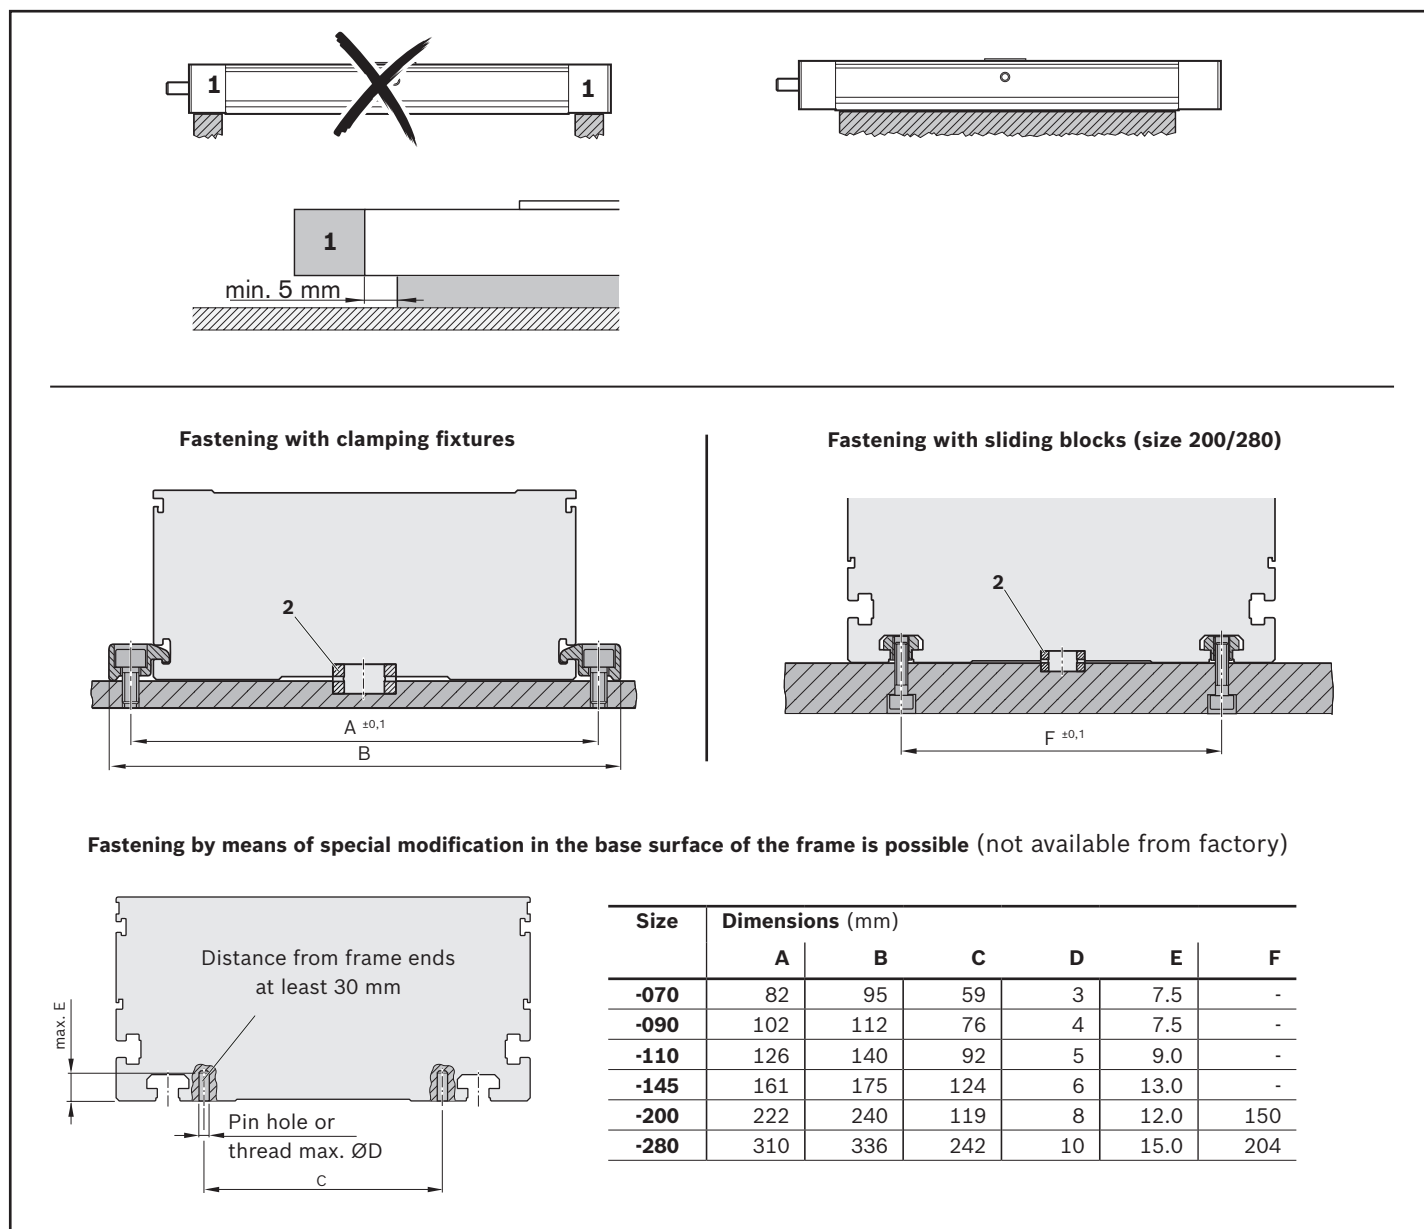

Fig. 4: Fastening
- Do not fasten or support the product at the end blocks/cross ties (1). The frame is the load-bearing part. If possible, support it over the entire length. Keep a minimum distance of 5 mm from the end blocks (1) ➔ Fig.4.
- For compact modules with centering holes in the bottom area, use centering rings (2) for better alignment with other linear motion systems and connection elements.